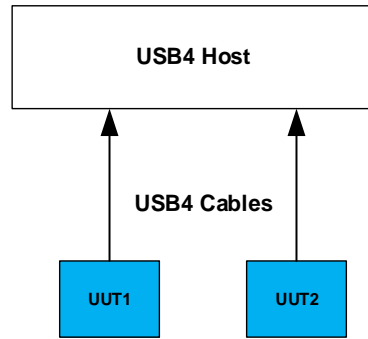

Figure 2-5: USB4 Host ↔ Two UUT (USB4 Devices Under Test) Topology
2.5.3. Multiple UUT (See Figure 2-5)